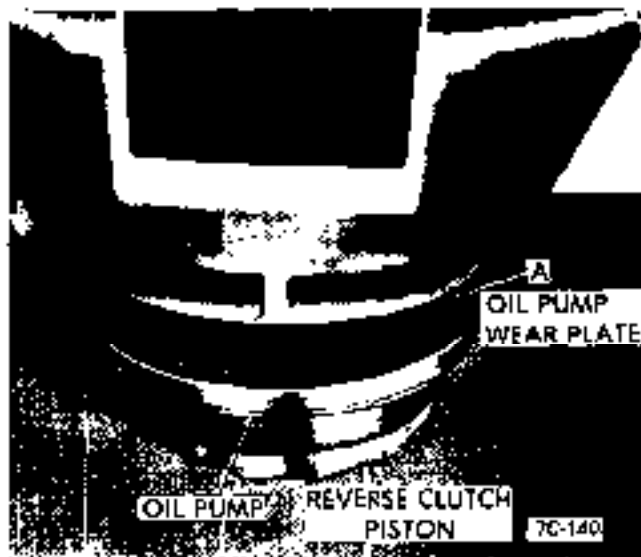

Figure 7C-140
7. Inspect front face of converter housing for oil leak. See Figure 7C-141. If problem is diagnosed as a front seal leak (presence of red oil coming from bottom of converter housing), remove front oil seal.